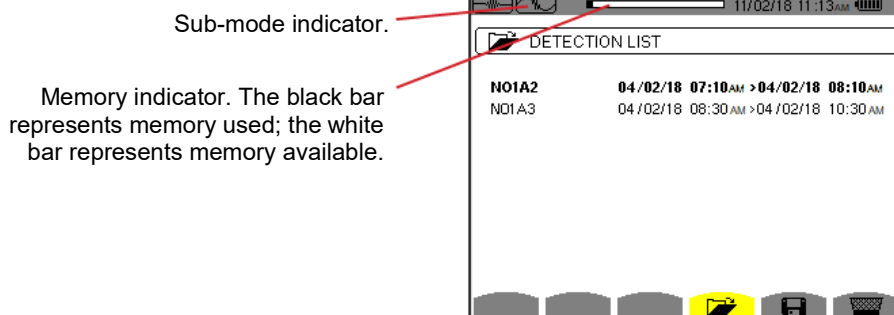

Figure 5-3
- If transients have been recorded, the Detection List is displayed (Figure 5-3).
When the list of searches for transients is displayed (see Figure 5-3), select the search to be erased. Move the cursor to it using the ▲ and ▼ buttons. The selected search is bolded. Then press the  button. Press ↵ to validate or ↶ to cancel.